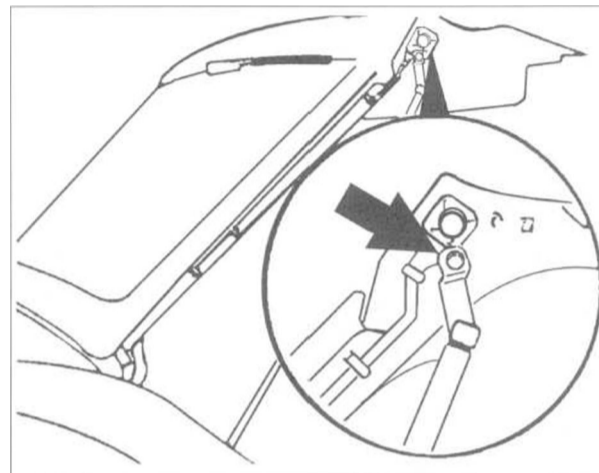

Fig. 8. Strut bracket mounting bolt (arrow) at tailgate end.
- Remove bolt from strut bracket on tailgate and remove strut. See Fig. 8.